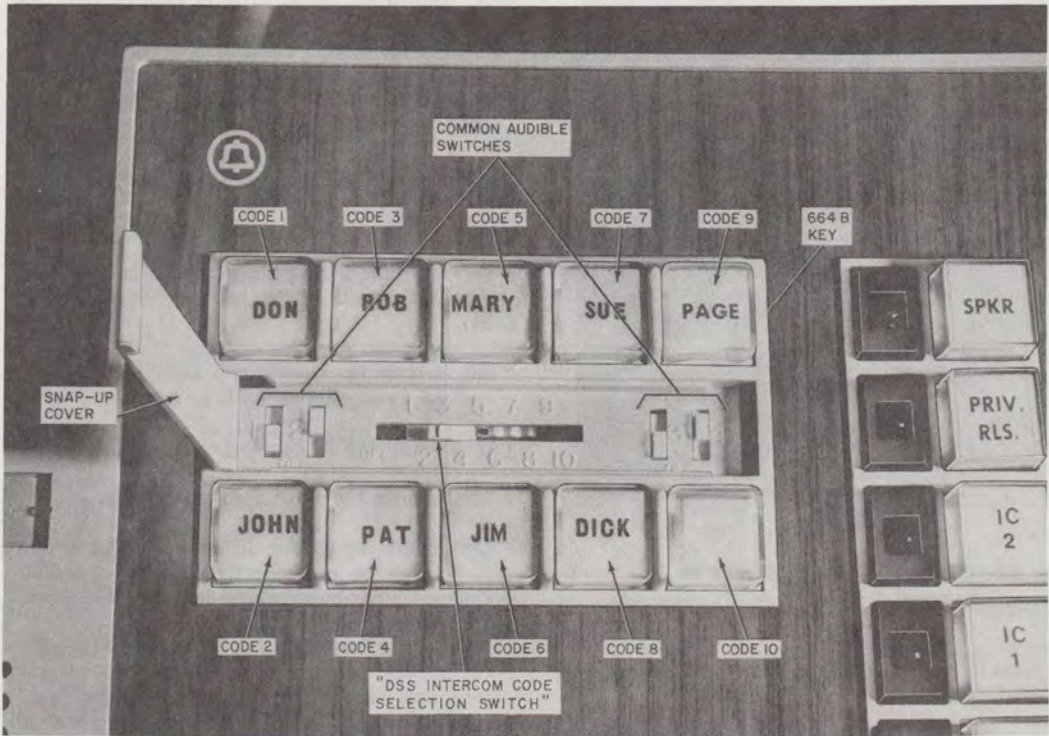

Fig. 22—DSS Key, Cover Open
3.34 Located under the hinged cover on the DSS key of each station are four common audible switches which control CO/PBX ringing, and the DSS intercom code selection switch which determines the intercom code of the station (Fig. 22). Repeat the following procedure at each station.
- (1) Raise the cover by pressing on the left end to tilt it up or pry up the right end with a fingernail.
- (2) Find out which CO/PBX lines are to ring at the station. Set the switch for each line either ON or OFF. On the standard DSS key (664B), ON is up and OFF is down; on the code busy DSS key (664C), ON is right and OFF is left. (Figure 22 shows the station coded to ring on lines 2 and 4.)
- (4) To set the intercom code, slide the DSS intercom code selection switch to the proper number between 1 and 10 (or to OFF if the station is to have no DSS code). Be careful that the switch is not between detent positions. (Figure 22 shows the set coded as station 3.)
- (5) Close the switch cover.